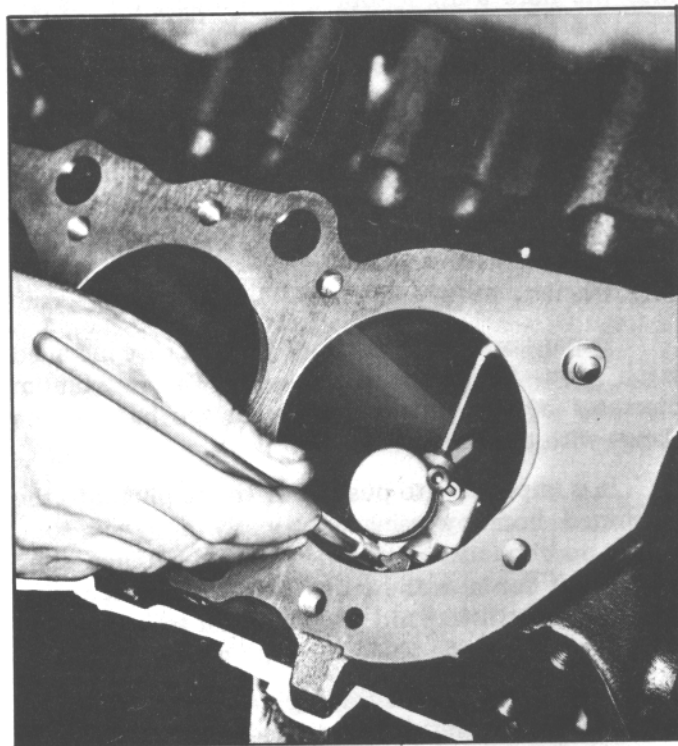

Fig. 91. Measuring Cylinder Bore
5. Measure the cylinder walls for taper, out-of-round or excessive ridge at top of ring travel. This should be done with a dial indicator. Set the gauge so that the thrust pin must be forced in about 1/4" to enter gauge in cylinder bore. Center gauge in cylinder and turn dial to "O". Carefully work gauge up and down cylinder wall to determine the out-of-round condition. If cylinders are found to exceed specifications, honing or boring will be necessary. (Fig. 91).